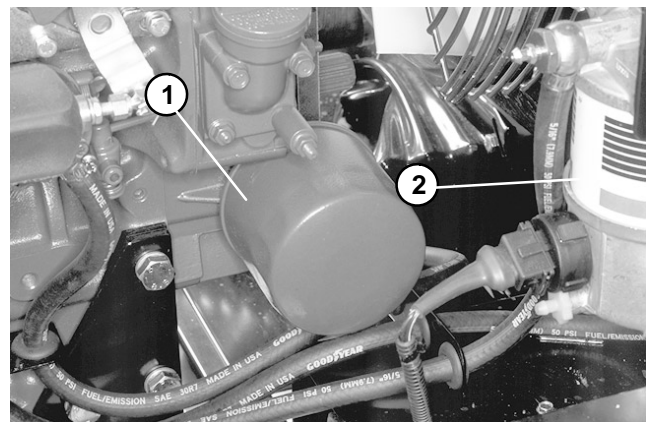

Figure 13
2. Remove oil filter. Apply a light coat of clean oil to the new filter seal before screwing it on. **Do not overtighten filter** (Fig.13).